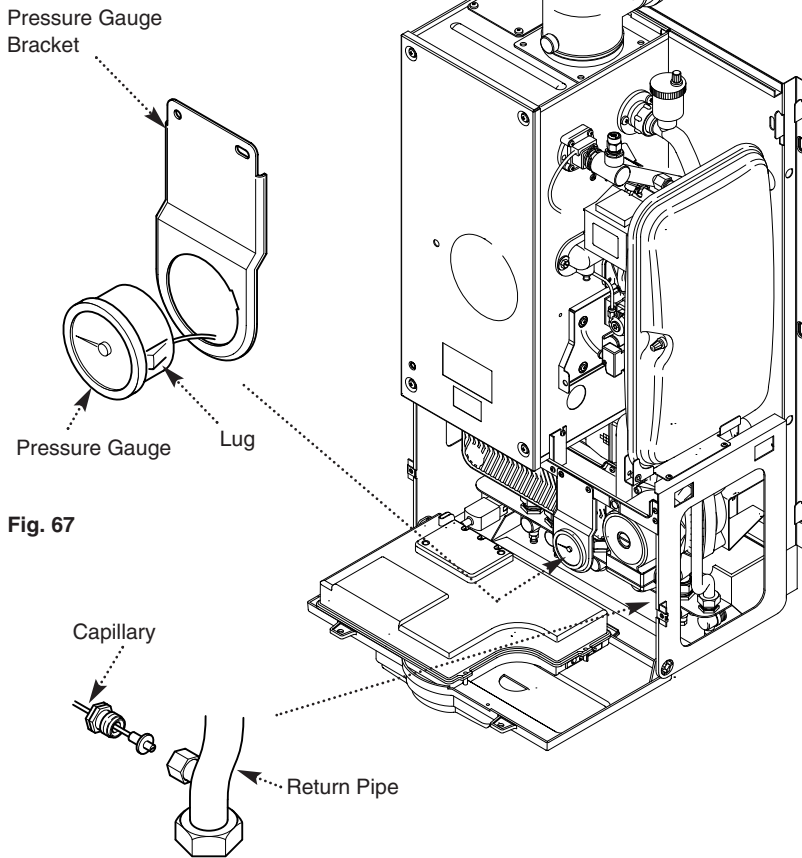

Fig. 68
2. Undo the nut retaining the capillary in the connection at the return pipe (Fig. 68).